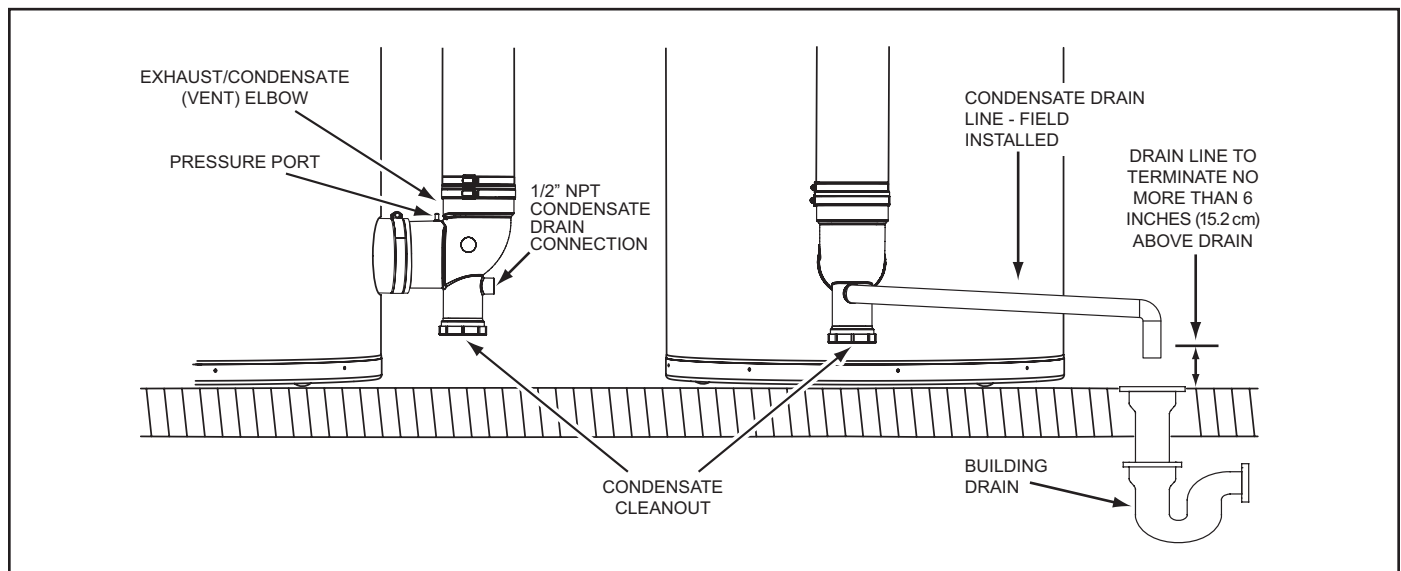

Figure 53
2. Install a 1/2 inch PVC condensate drain line between condensate drain connection on the Exhaust/Condensate Elbow and a suitable building drain. The condensate line must slope to an open drain, see Figure 53.
3. Terminate the condensate drain piping with an elbow above the drain. Ensure that any discharge will exit the condensate drain line no more than 6 inches (15.2 cm) above a suitable building drain, or external to the building, see Figure 53.
4. Ensure the condensate drain line is not elevated above the condensate drain connection on the Exhaust/Condensate Elbow, see Figure 53.